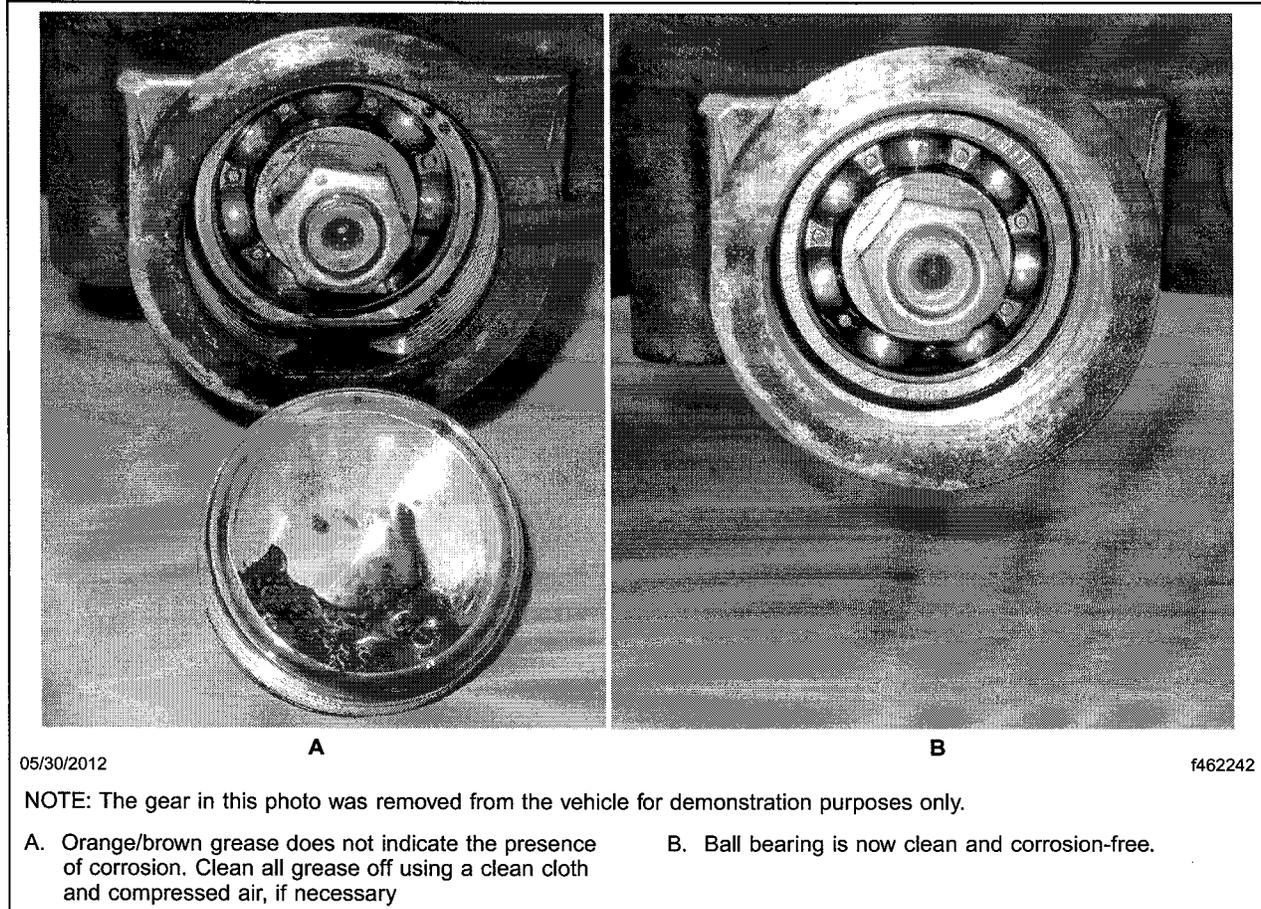

Fig. 2, Grease Removal from Ball Bearing
7. Using a clean cloth, remove all liquid and grease from the ball bearing. If necessary, use compressed air to remove excessive grease. See **Fig. 2** for an example of a sufficiently clean ball bearing.